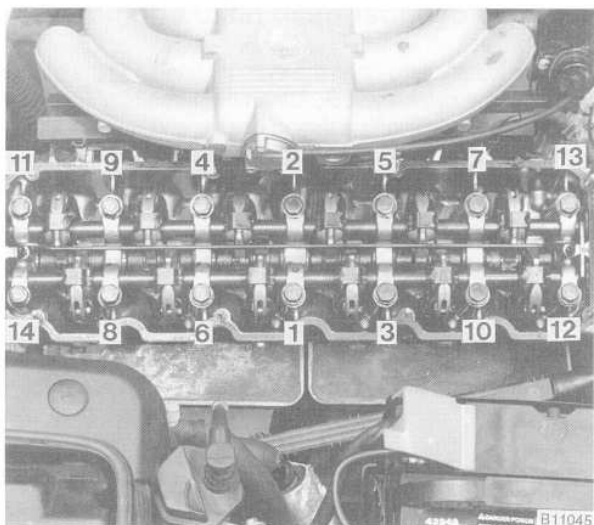

Fig. 6. Cylinder head bolt tightening sequence for M20 engine.
4. Tighten the new cylinder head bolts in the sequence shown in Fig. 6.